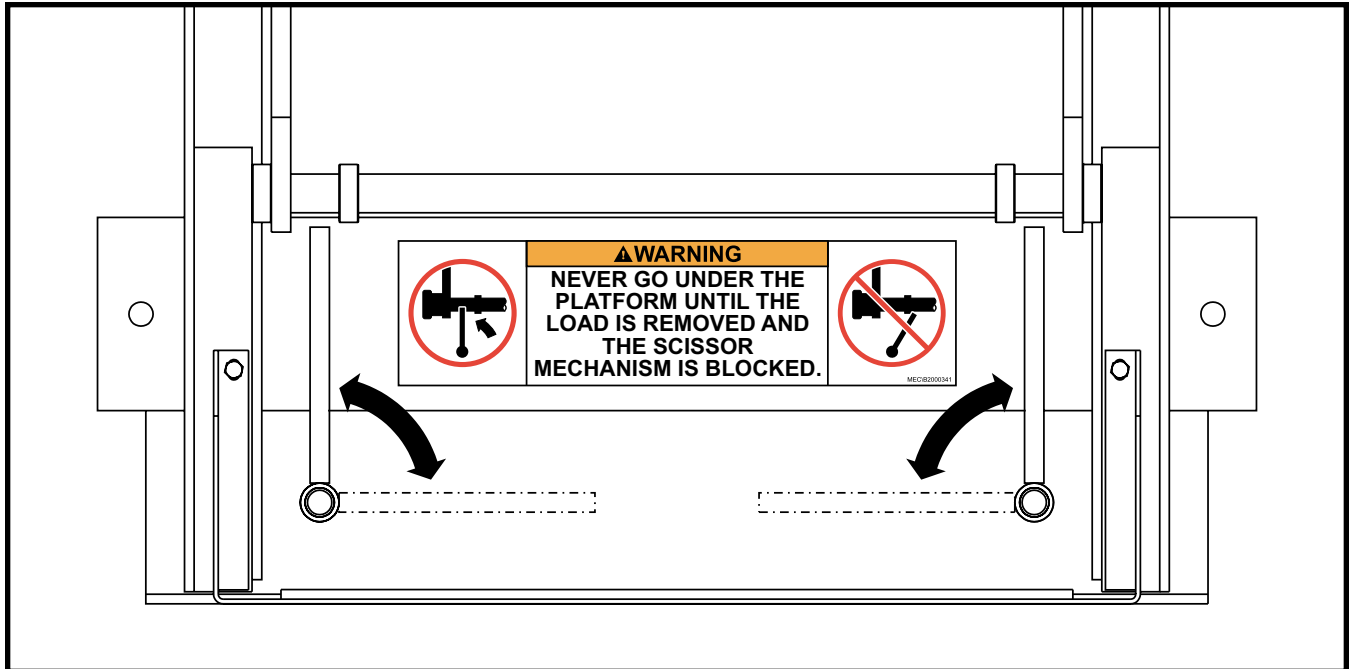

Figure 5 - Maintenance Bar Operation
2. As detailed in Figure 5, rotate the maintenance bars approximately 90° so that the bars are parallel with the scissor legs. The end of the bar should be positioned between the end of the leg and the collar on the roller shaft.